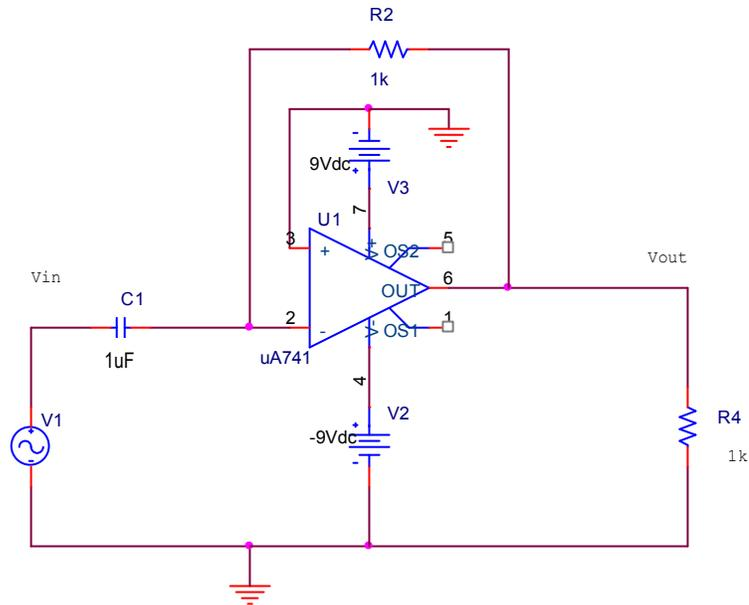

Figure C-5.
- Remove the feedback capacitor, C2. Replace R1 with an input capacitor, C1=1μF. Replace the 10k feedback resistor with a 1k resistor, R2. Your circuit should now look like Figure C-5.